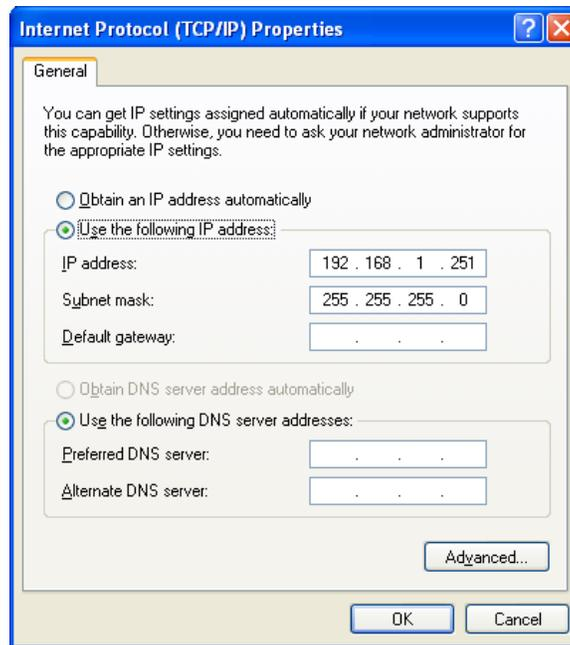

Figure 254: Static IP address settings for the Slave PC
5. Change the last octet of the static IP address from “.250” to “.251”. Note that any valid IP address will work, but the typical setup for master and slave is “192.168.1.250” and “192.168.1.251” respectively, both with a subnet mask of “255.255.255.0”. Path: “Start” > “Control Panel” > “Network Connections” > right-click “Local Area Connection” > “Properties” > select “Internet Protocol (TCP/IP)” > “Properties” > “IP address”. Please see Figure 254 below.